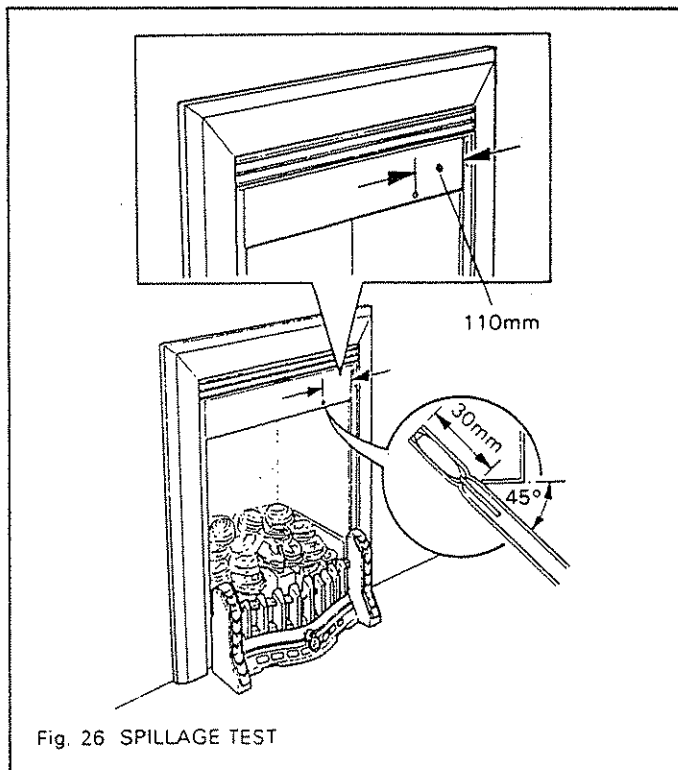

Fig. 26 SPILLAGE TEST
- 8.4.3 Leave the appliance on for five minutes then light a smoke match. The match should be inserted inside the top of the fire front opening and be pointed upwards at 45° to the vertical. Insert the match 110mm in from the **right** side of the opening. There is a location "pip" on the firebox front at this position. The match tip should project 30mm past the inner edge of the horizontal strip at the top of the fire front opening and the match stem should touch this edge (see fig. 26).